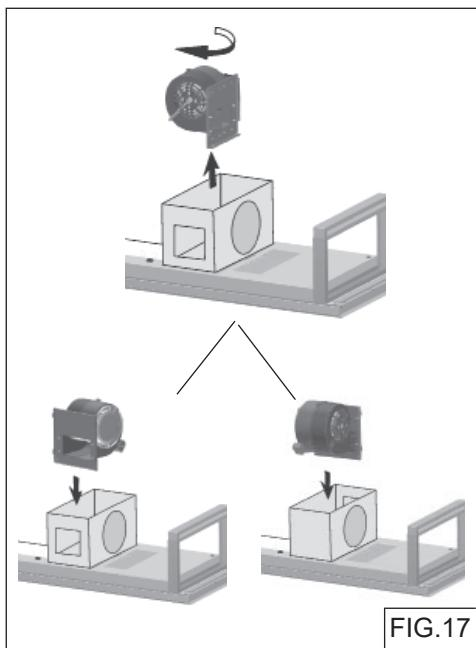

FIG.17
- Rotate blower 90 degrees and reinstall (2) screws (Fig.17). Reinstall blower box covers, damper and screws.